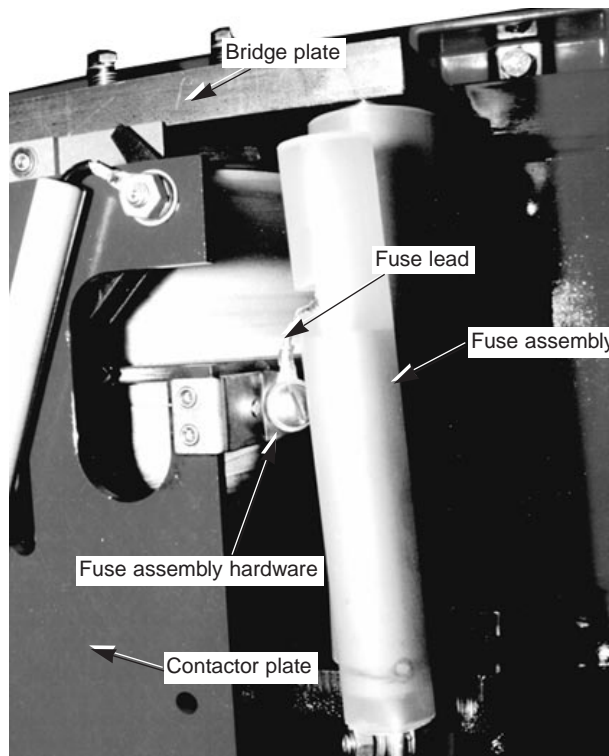

Figure 17.
13. Attach the two new fuse assemblies to the contactor plate. Use the hardware attached to the new fuse assemblies (refer to Figure 17).
14. Train the fuse leads as shown the Figure 17.